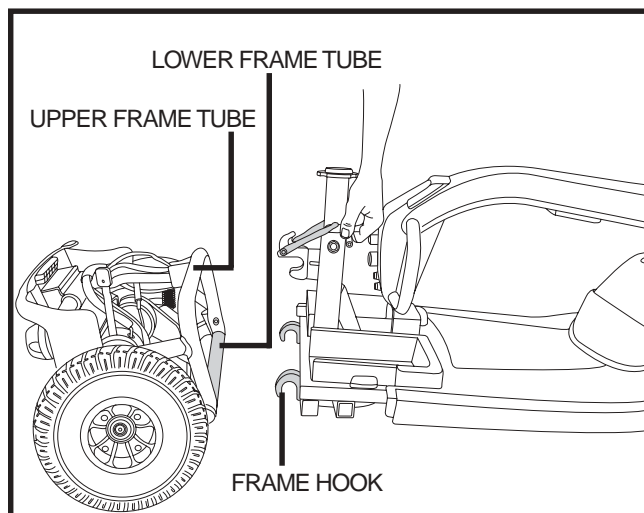

Figure 22. Frame Separation
3. Slowly separate the two sections. See figure 22.
1. Position the front and rear sections of your scooter as shown in figure 22.
2. Use the frame release lever to lift the front section as you align the frame hooks of the front section with the lower frame tube of the rear section. See figure 22.